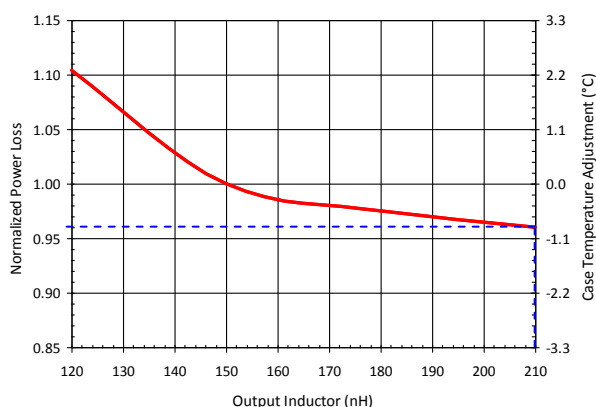

Figure 15: Power Loss vs. Output Inductor
- 6) Determine the inductance normalizing factor with $L=210nH$, which is 0.96 based on the dashed lines in Figure 15.
- 13) Determine the case temperature with $L=210nH$, which is -0.9° based on the dashed lines in Figure 15.